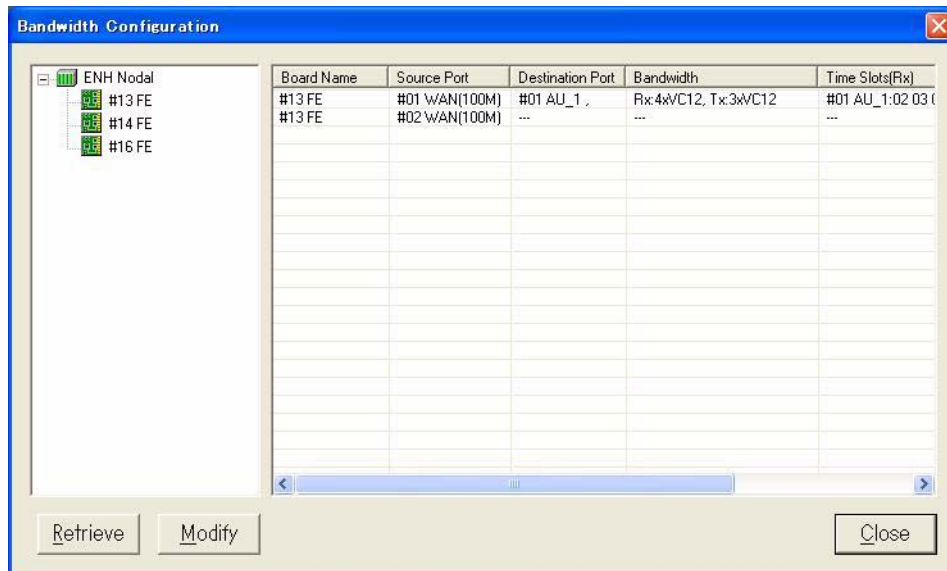

Fig. 4-4-86 Bandwidth Configuration Dialog Box (2)
- 7 After completing configuration **Bandwidth Configuration** Dialog box is shown in *Fig. 4-4-86*.